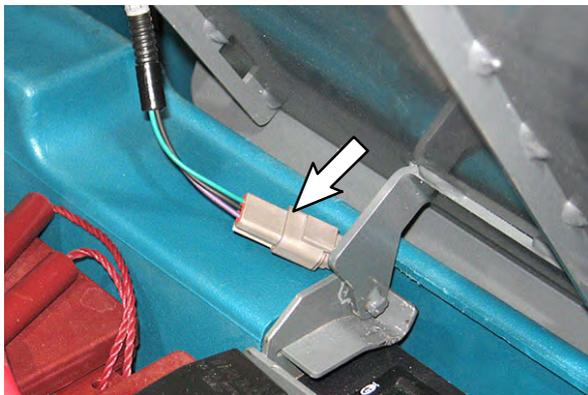

FIG. 19
3. Disconnect the wire harness from the seat switch. (Fig. 19)